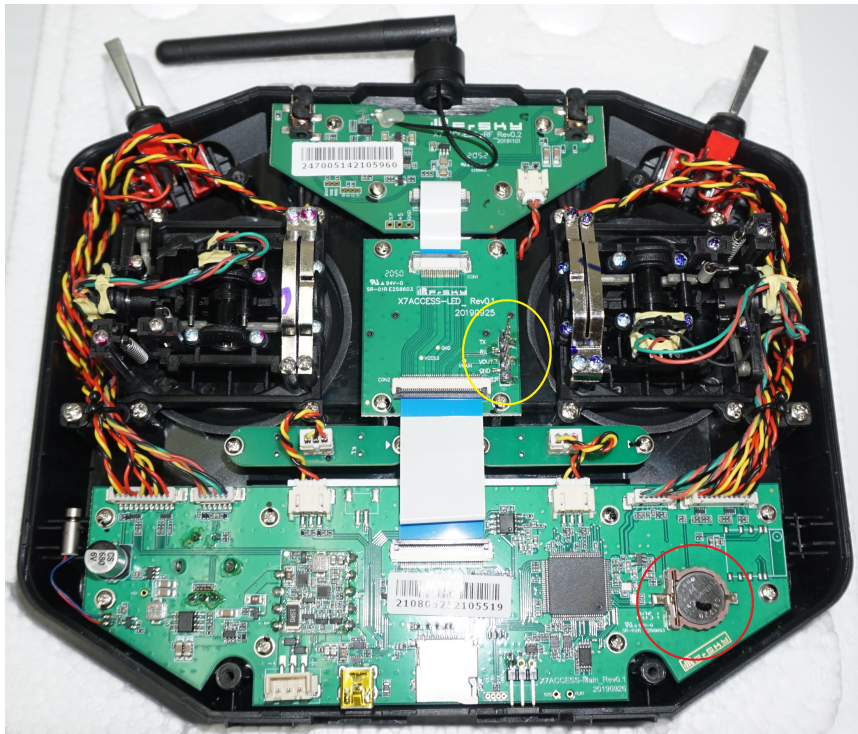

Figure 102: RCU RTC Location
10. Carefully put the two case halves together. Verify the module bay pins (circled yellow in Figure 102) slide through the slot (Figure 19).